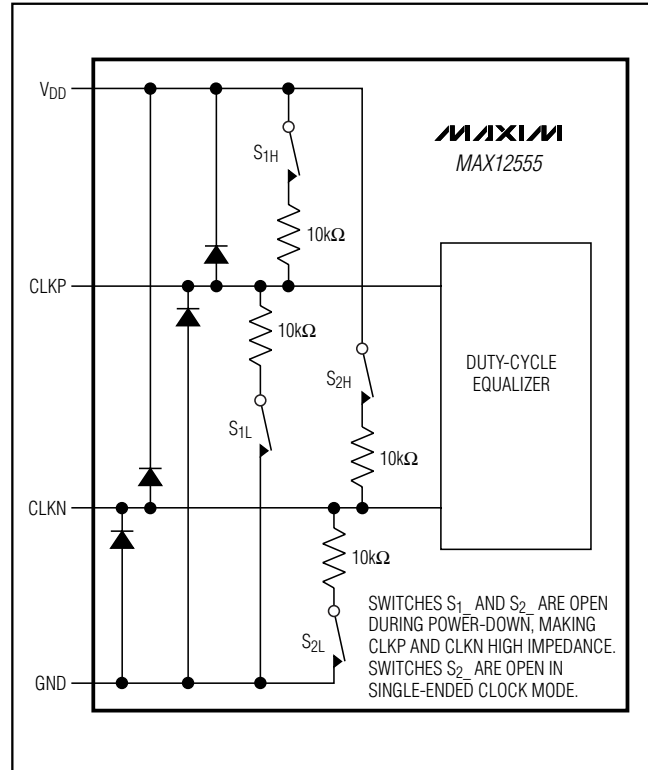

Figure 5. Simplified Clock Input Circuit
CLKP and CLKN are high impedance when the MAX12555 is powered down (Figure 5).
- CLKP, CLKN go high impedance (Figure 5).